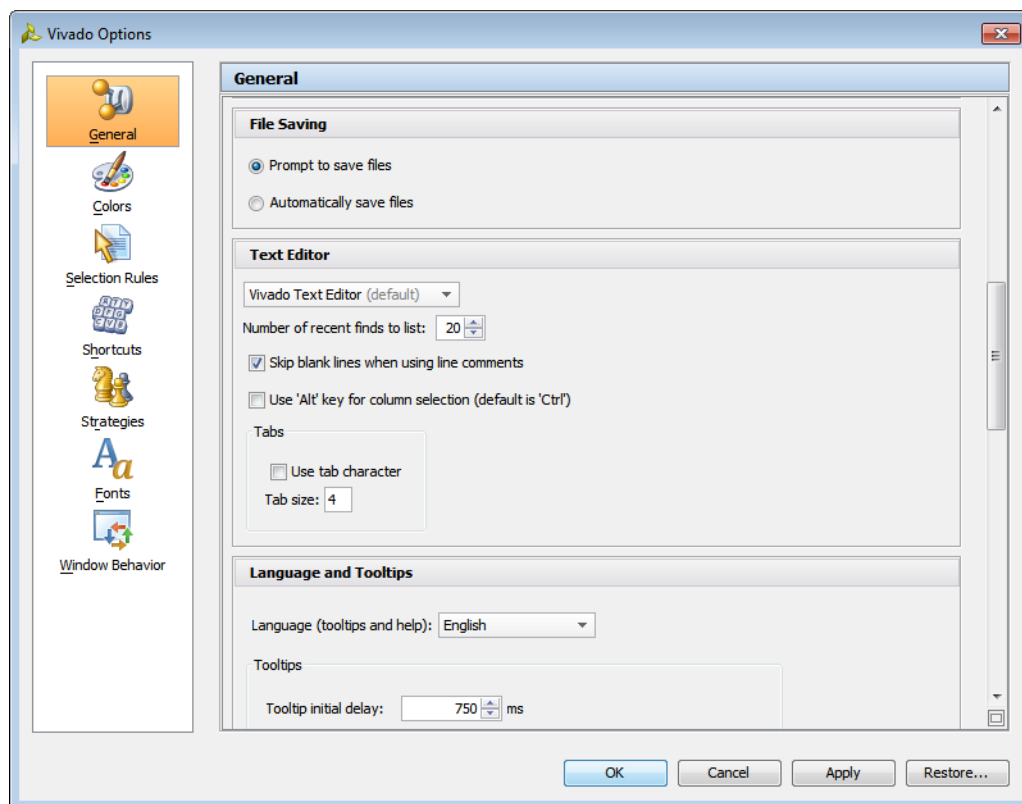

Figure 3-30: Vivado Options Dialog Box—General Page
2. In the Vivado Options dialog box General page (Figure 3-30), scroll down to the Text Editor section, and select an alternate editor select from the drop-down list.